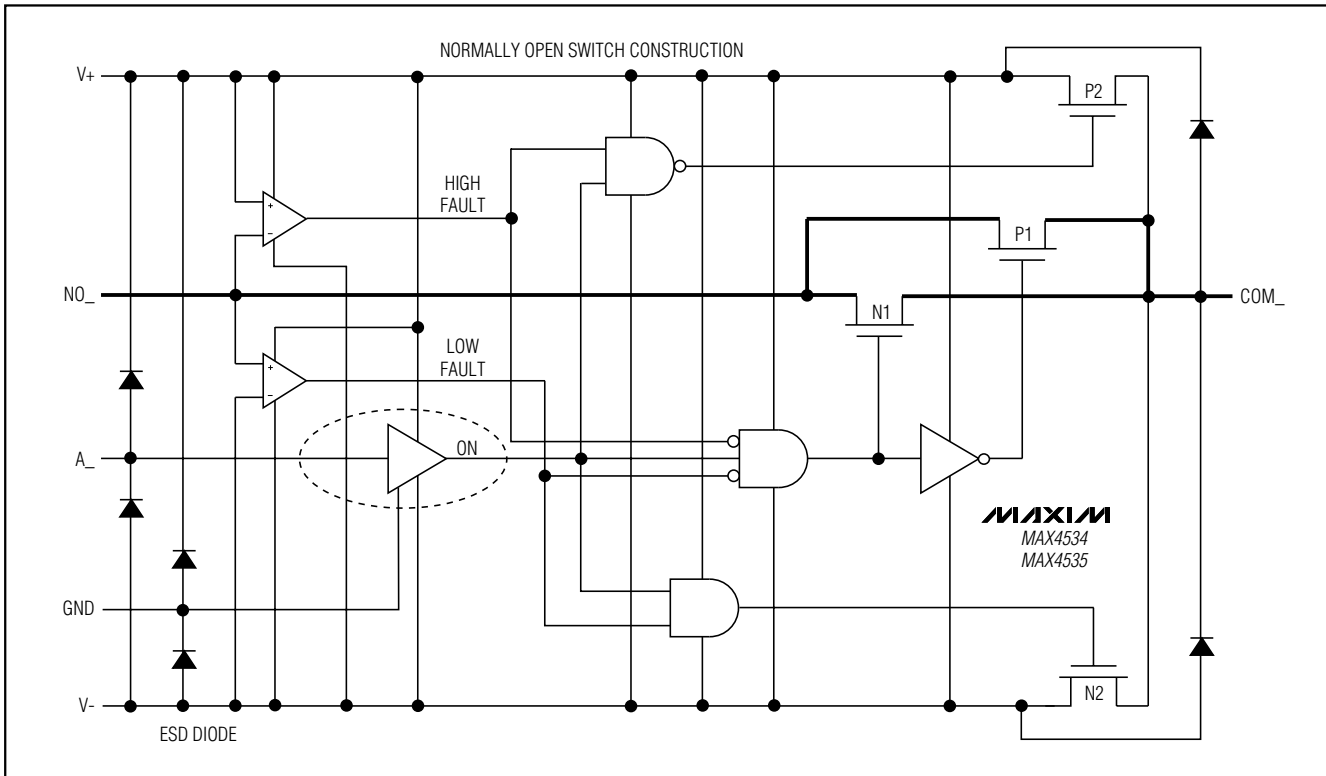

Figure 1. Functional Diagram
Figure 1 shows the internal construction, with the analog signal paths shown in bold. A single, normally open (NO) switch is shown. The analog switch is formed by the parallel combination of N-channel FET N1 and P-channel FET P1, which are driven on and off simultaneously, according to the input fault condition and the logic level state.
off in response to A\_ signals (Figure 1). The parallel combination of N1 and P1 forms a low-value resistor between NO\_ and COM\_ so that signals pass equally well in either direction.
When the signal on NO\_ exceeds V+ by about 150mV, the positive fault comparator output goes high, turning off FETs N1 and P1 (Figure 1). This makes the NO\_ pin high impedance regardless of the switch state. If the switch state is "off," all FETs turn off, and both NO\_ and COM\_ are high impedance. If the switch state is "on," FET P2 turns on, clamping COM\_ to V+.
When the signal on NO\_ goes about 150mV below V-, the negative fault comparator output goes high, turning off FETs N1 and P1 (Figure 1). This makes the NO\_ pin high impedance regardless of the switch state. If the switch state is "off," all FETs turn off, and both NO\_ and COM\_ are high impedance. If the switch state is "on," FET N2 turns on, clamping COM\_ to V-.
FETs N2 and P2 can source about ±10mA from V+ or V- to the COM- pin in the fault condition (Figure 1). Ensure that if the COM- pin is connected to a low - impedance load, the 30mA absolute maximum current rating is never exceeded, both in normal and fault conditions.